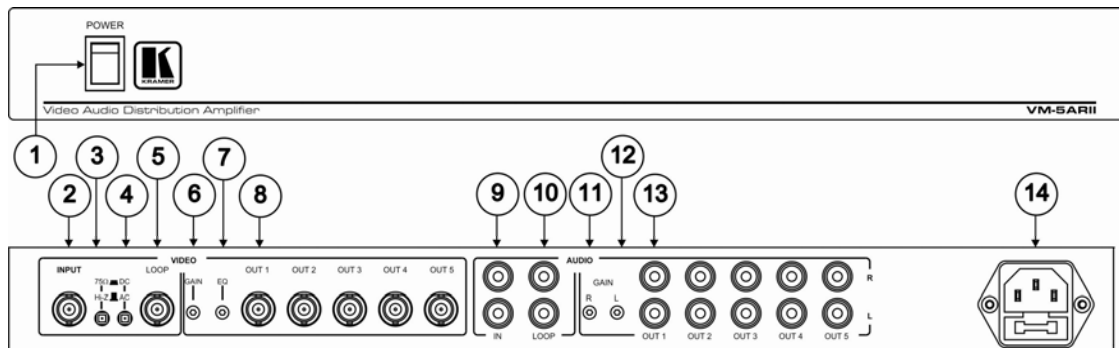

Figure 1: VM-5ARII Video Audio Distribution Amplifier – Front and Rear Panels
- **VM-5ARII** *Video Audio Distribution Amplifier*, see Figure 1